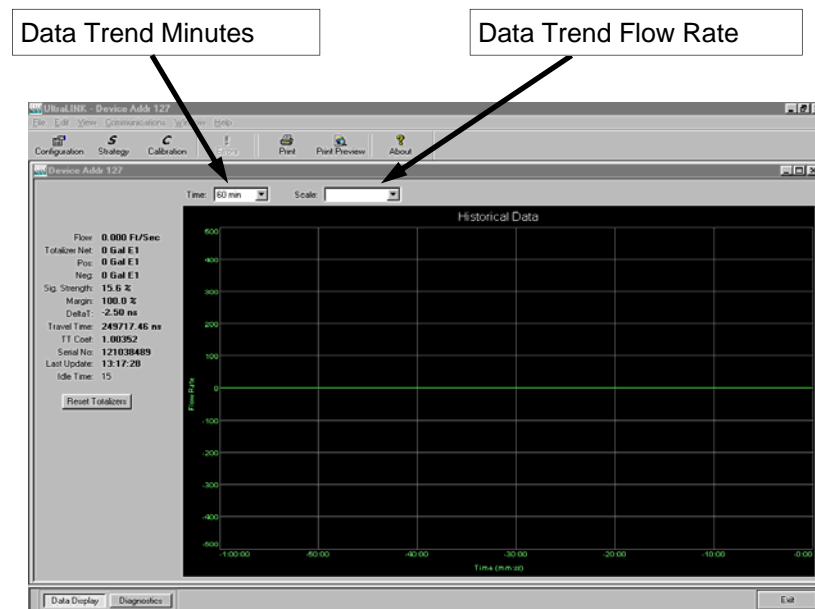

Figure 4.1
2. Double-click on the *UltraLink™* icon. The first screen is the “RUN-mode” screen (see **Figure 4.1**), which contains real-time information regarding flow rate, totalizer accumulation, system signal strength, diagnostic data and the flow meter’s serial number. The indicator in the lower right-hand corner will indicate communications status. If a red **ERROR** is indicated, click on the Communications button on the top bar. Click on **Communications/Initialize**. Choose the appropriate COM port and interface type. Proper communications are established when a green **OK** is indicated in the lower right-hand corner of the PC display.